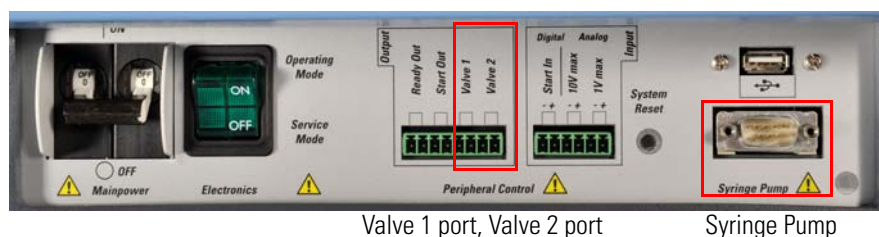

Figure 5-20. Power panel with peripherals ports
1. Use the RS232 interface cable to connect the syringe contact on the power panel of the Exactive Series mass spectrometer to the RS232 serial port at the rear side of the syringe pump. See Figure 5-20. The syringe contact allows controlling the syringe pump by the instrument software.
- a. Connect the interface cable to the mating connector on the back of the MX Series II Module. The Valve 1 port and the Valve 2 port of the mass spectrometer are located on the power panel of the mass spectrometer. See Figure 5-20.